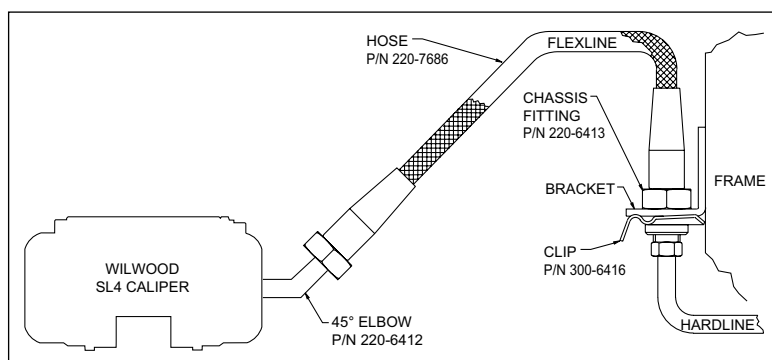

Figure 4. Brake Line Diagram
- Remove the caliper center bridge pad retainer bolt, nut, and tube from the caliper. Insert the brake pads (13) into the caliper, with the friction material facing the rotor, as shown in Photo 4. Check that the top of the brake pad is flush with the outside diameter of the rotor, Photo 5. If not, adjust by adding or subtracting shims (11) between the caliper and the bracket. After the caliper pad height is set, reinstall the center bridge pad retainer tube, bolt, and lock nut. The lock nut should be snug without play in the bolt or tube. Be cautious not to over tighten. Torque the caliper lock nuts (8) to 30 ft-lb.
- **NOTE:** The caliper in this brake kit utilizes a 1/8-27 NPT pipe thread inlet (use PTFE tape on pipe threads of adapter fitting for proper sealing to caliper). OEM rubber brake hoses generally cannot be adapted to Wilwood calipers. Wilwood offers a brake flex line hose kit to fit this application, order P/N 220-9101, Figure 4. Hose kit includes hoses, fittings, etc., all in one package for this application. **Carefully route hoses to prevent contact with moving suspension, brake or wheel components.** **NOTE:** Wilwood hose kits are designed for use in many different vehicle applications and it is the installer's responsibility to properly route and ensure adequate clearance and retention for brake hose components.